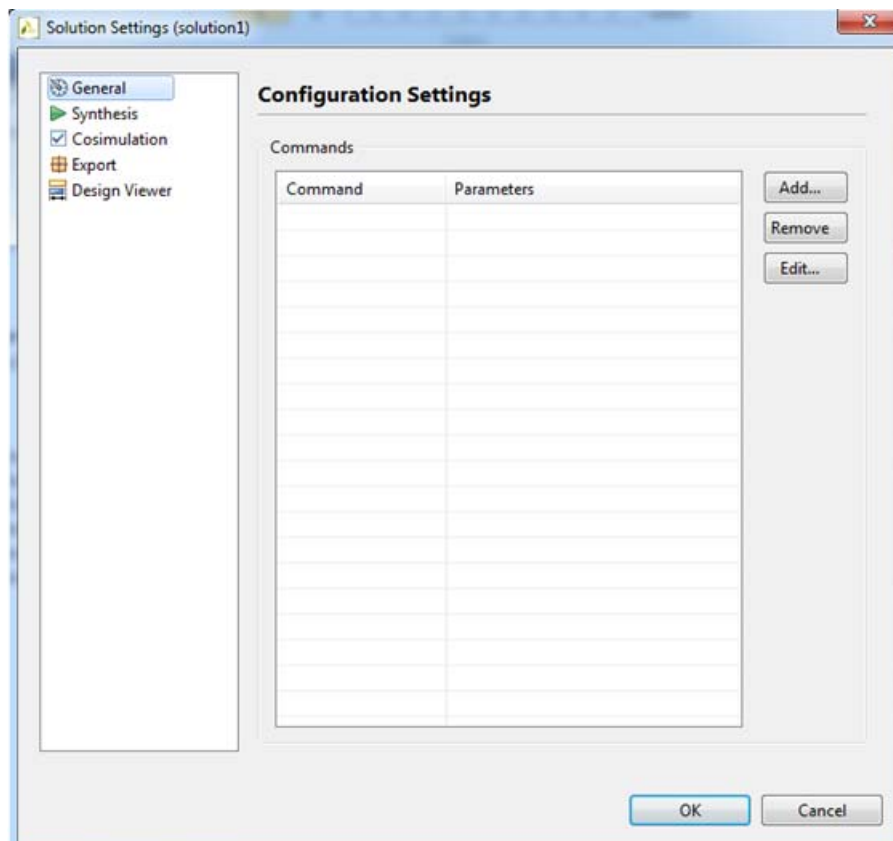

Figure 3-12: Configuration Settings
5. Select **General** and then click **Add** (Figure 3-12).